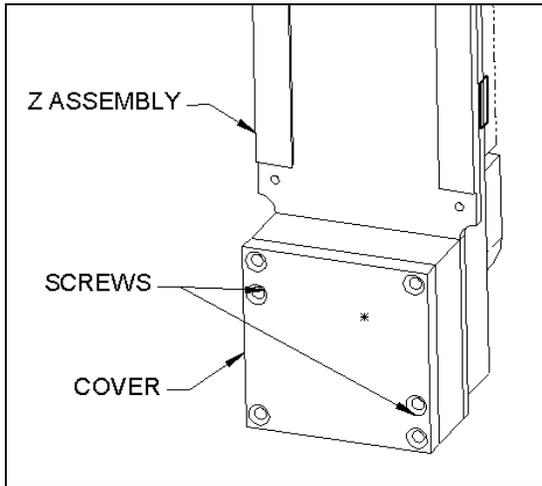

Figure 7-15 Cover Screws
- 3 Remove the two M3 x 12 Posi screws shown in Figure 7-15.